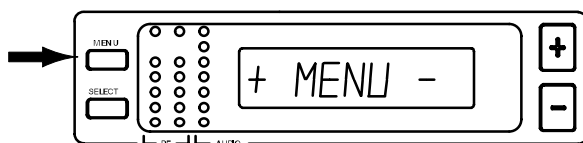

FIGURE 21
1. Press the MENU button. The + MENU – display will appear, as shown in Figure 21.